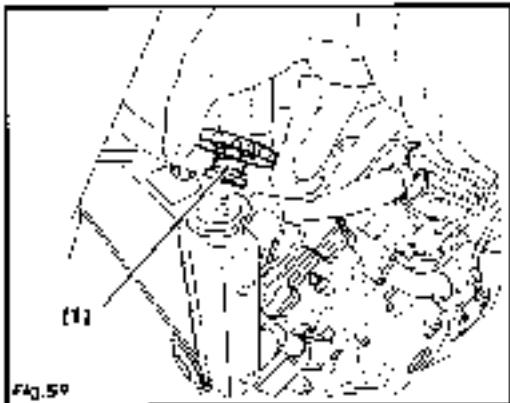

Fig.59
1. Remove the radiator cap [1] (see fig. 59).
4. Loosen the radiator cap [1] (see fig. 59).